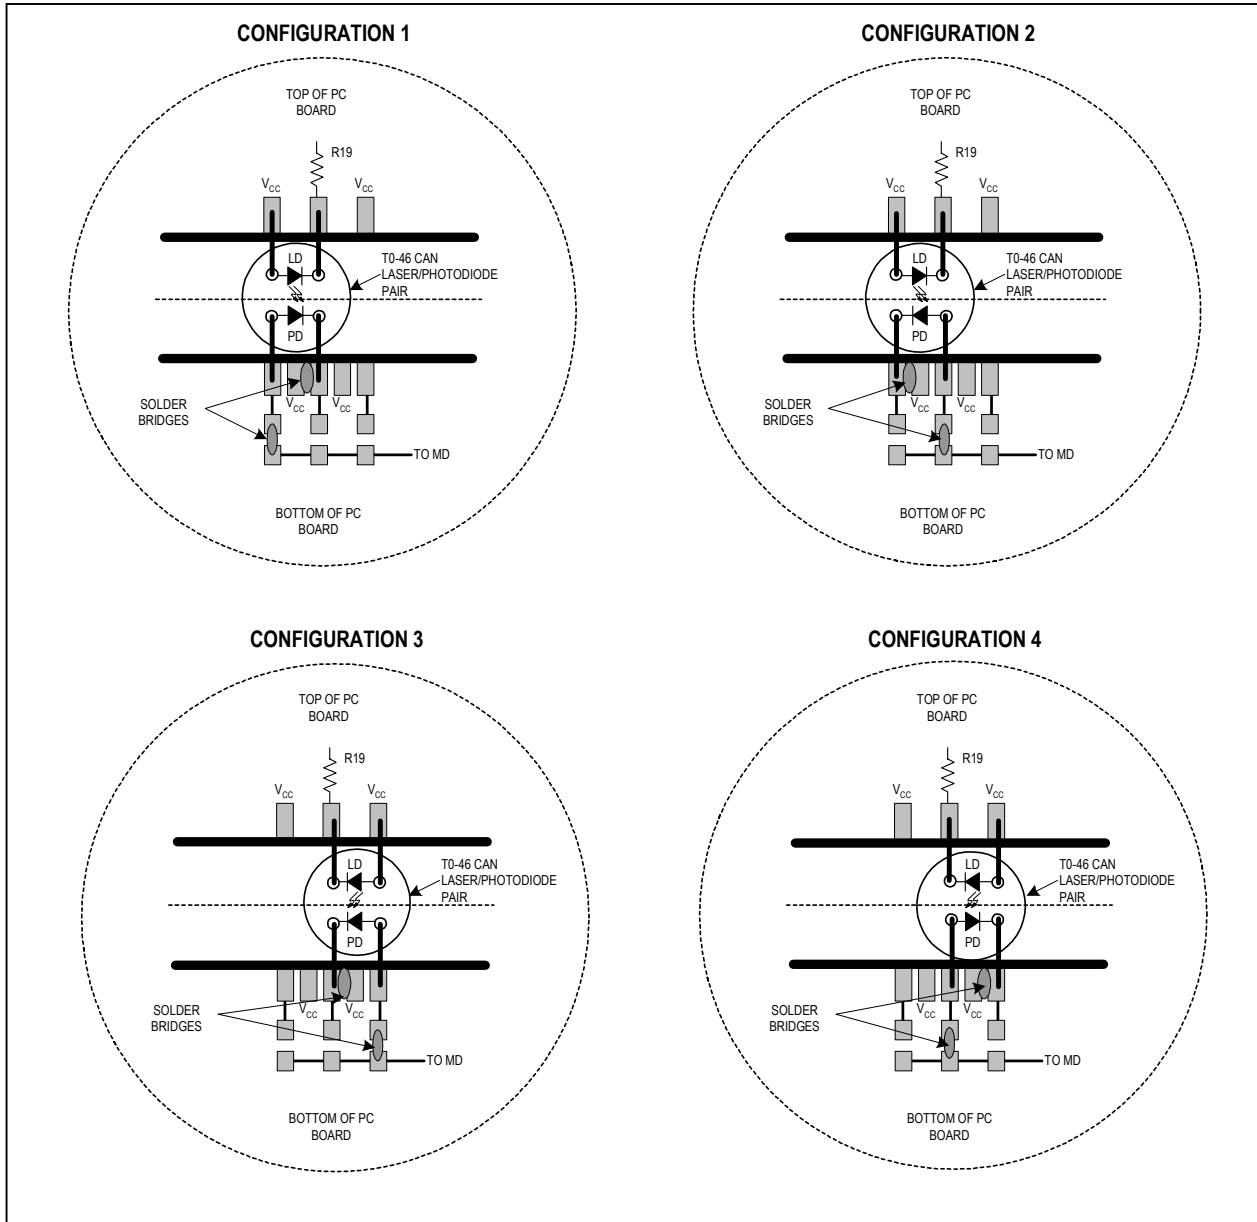

Figure 1. Attachment of Laser Diode/Monitor Diode to the MAX3735A EV Kit
6) The EV kit is designed to allow connection of a variety of possible laser/monitor diode pin configurations. Connect a TO-header style laser with monitor diode (Figure 1) as follows:
- Connect the monitor photodiode to two of the five pads on the bottom (solder) side of the PC board, directly below the laser diode pads. Connect the anode and cathode of the photodiode as shown in figure 1.